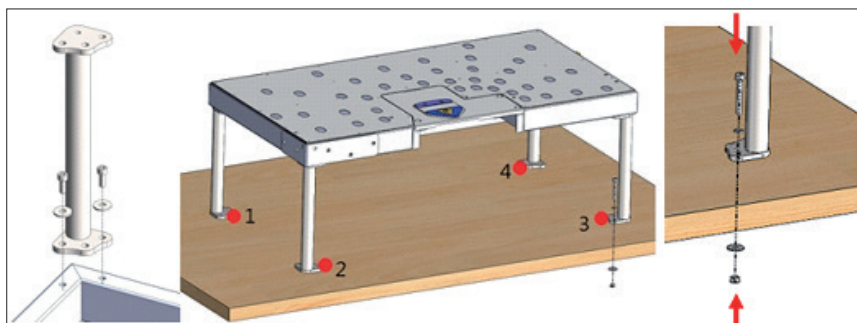

Fig. 1
- After assembling the worktable stands, drill four holes compliant with the stand positioning holes and fasten the screws onto the stands. (Fig 1)